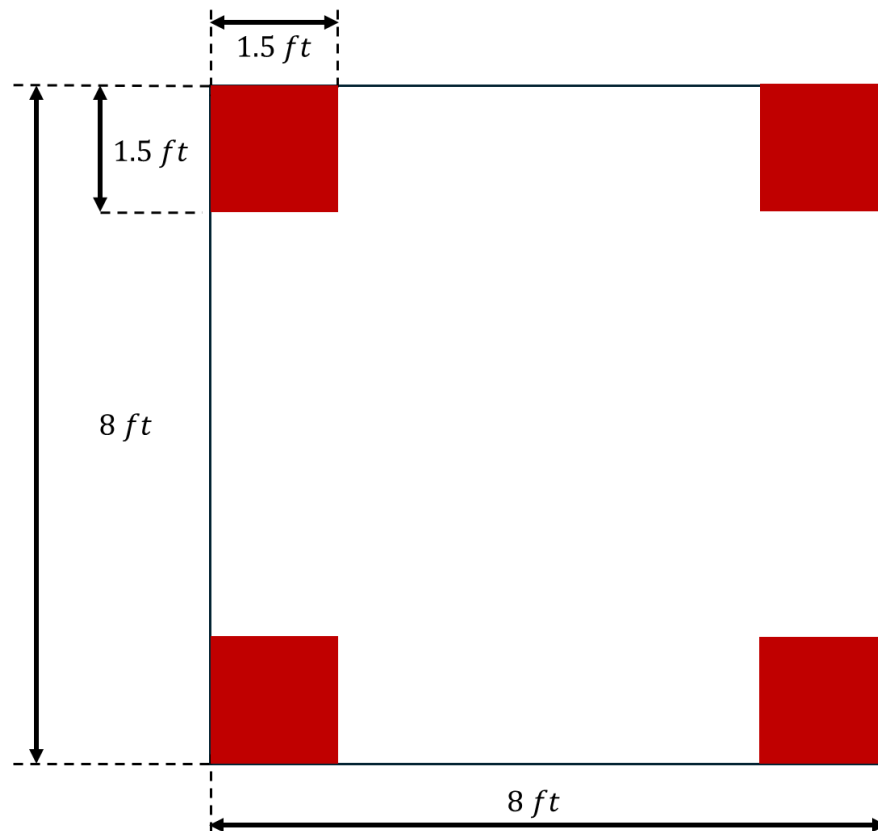
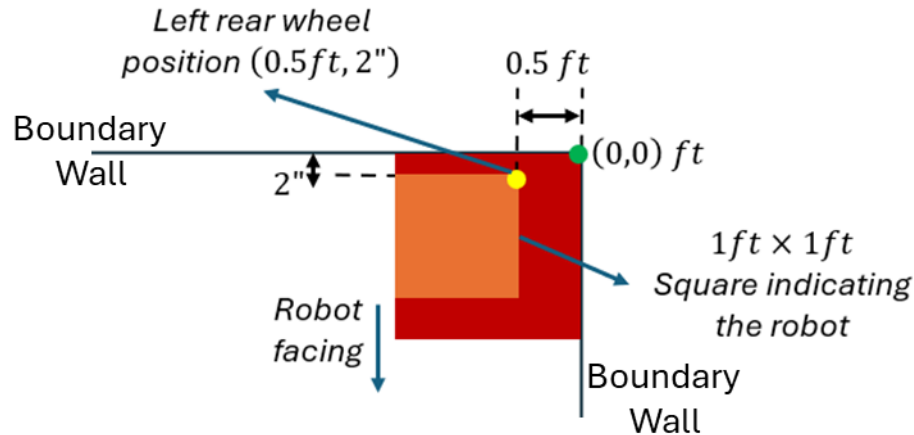

Figure 1. Top view of the game field with colored regions for description
Figure 3. Illustration of robot placement at the start of each round (top view)
The game field will be a  $8\text{ ft} \times 8\text{ ft}$  grid as shown in the Figure 1. Plywood or similar material will be used to construct boundary walls to represent the ends of the grid. The walls will be at least 5 *inches* high from the ground. The regions highlighted in red (no such color coding in the real game field) are the potential regions to hold the simulated fire and starting point of the robot. In this document for illustration of the fire setup and starting region the top right corner of the game field is used. This is purely for illustration purposes and does not mean the fire setup or the starting region must be there in the contest.
Throughout the contest one of these four regions in red in figure 1 will hold the simulated fire and one other will hold the starting point of the robot. This designated fire and starting location will remain same across all rounds. In this contest, the simulated fire will be set up using the following,
Some of the features not included in Figure 1 are obstacles, challenging terrain, scoring bands for fire detection and latch to hook the loose end of the firehose. These will not be known to the teams until the beginning of the specific tasks during the contest. However, the game field shown above will be available for practice on Friday from 2:00 pm to 5:00 pm.
**Placement of robot at the start:** The robot would be placed in one of the regions highlighted in red in Figure 1. Figure 3 illustrates the placement of the robot (assuming four-wheel system) within the highlighted region at the start. In this figure, the one foot by one foot orange square represents the robot's position at the start, wherein the rear left wheel will be placed at the yellow point which is represented as (0.5 *ft*, 2") in Cartesian coordinate with the respect to the edge of the game field represented by the green point and corresponds to the coordinate (0,0).